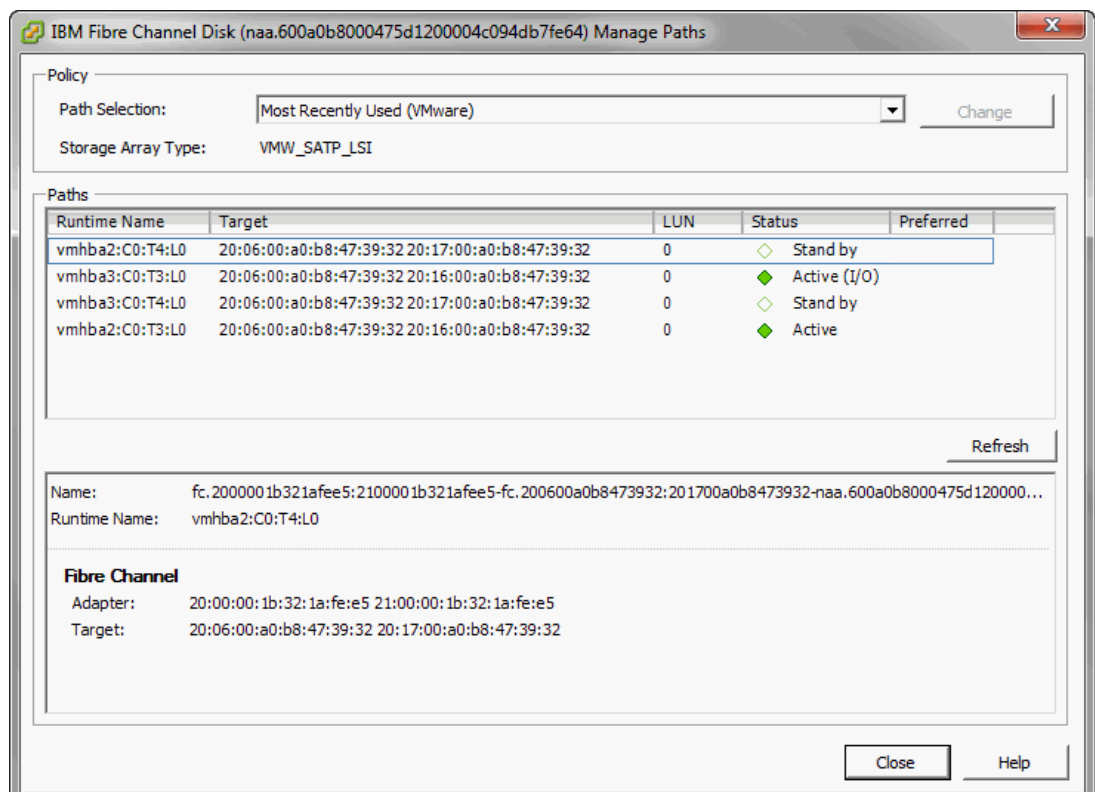

Figure 2-125 Multipathing view
4. As shown in Figure 2-125, we see the two paths, therefore the multipathing is working.